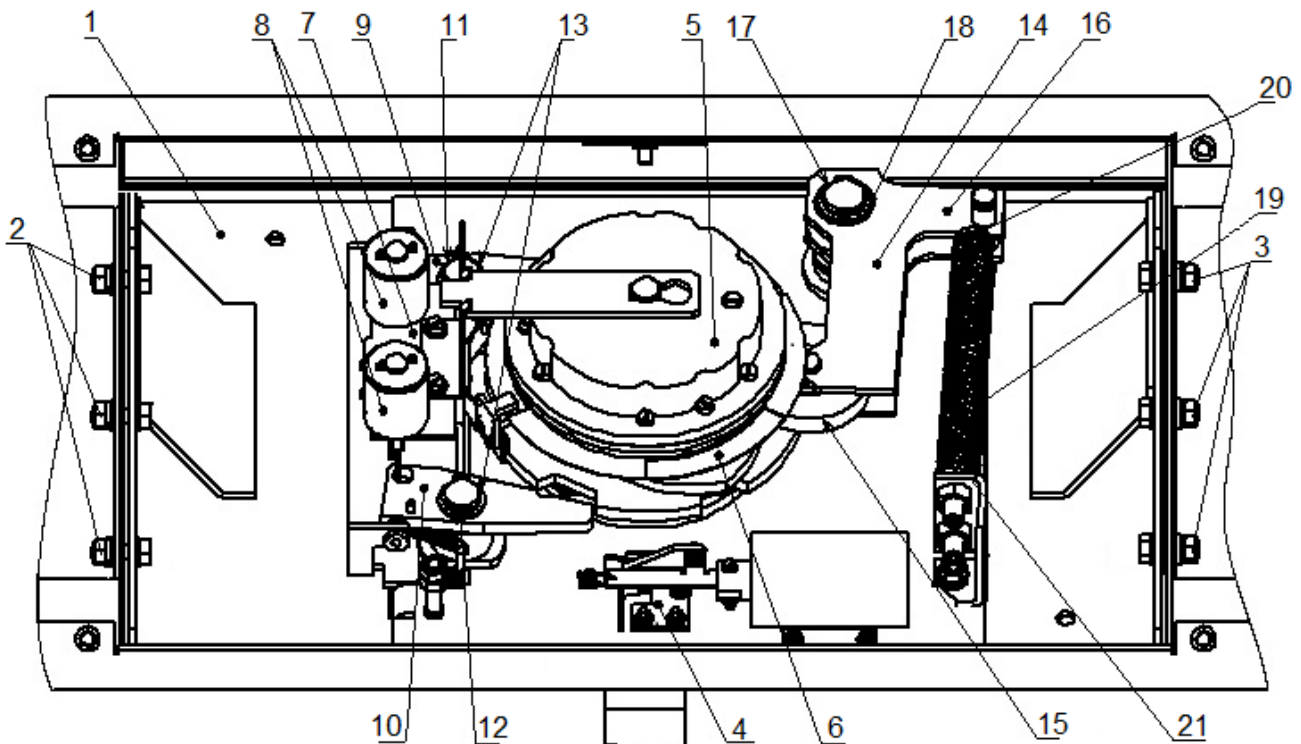

Figure 16. Rotary group of the turnstile's barrier arms
6. Inspect the rotary group of the barrier arms: its resetting mechanism (a pusher, springs, and a roller), optical rotation sensors for the barrier arms, and damper (see Fig. 16).
- rotation axes of the pusher lever (17 in Fig. 16), roller (15 in Fig. 16), and stoppers (11, 12 in Fig. 16) with the **Chain and Rope Lube Spray – WEICON** lubricant;
- parts of the emergency passage unblocking mechanism (4 in Fig. 16) with the **Chain and Rope Lube Spray – WEICON** lubricant.
- attachment points of the resetting springs (20, 21 in Fig. 16) with machine oil.